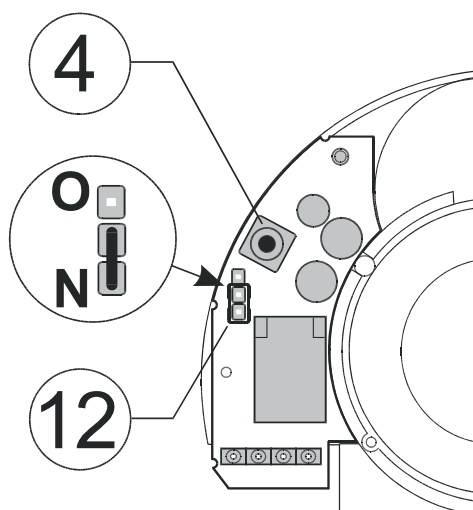

Fig. 2
The detector factory settings provide for voltage (N) mode as it is shown on Fig. 2. In case it is necessary to change it into non-voltage (O) mode, the detector should be dismantled and the jumper (12) positioned as shown on the figure.